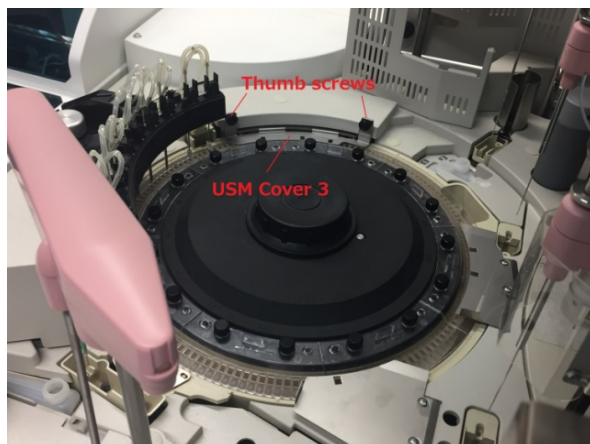

Figure 1: Picture of USM Cover 3 and its thumb screws
2. In order to perform Step 1, thumb screws needed to be loosened to remove the USM cover 3, as illustrated in Figure 1.